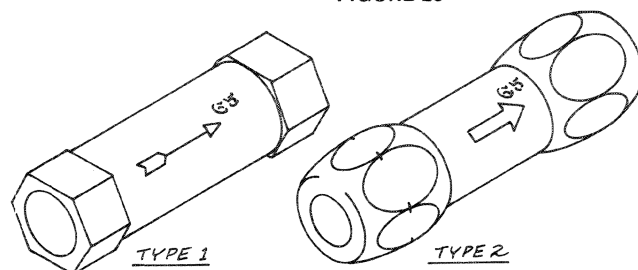

FIGURE 24
- (a) 65 psi check valve: No. 65 on outside of body indicates valve pressure rating. See Figure 24. On Type 1 valves, only the arrow shows direction of free flow. Type 2 check valves have these arrows and notches on the hex flats at the inlet end.
- (b) Model 912's, 1112's and 1114's with Cessna transmissions do not require the 15 psi check valves shown in Figure 24. If Cessna transmissions leak at the pintle shafts on 912's or 1112's, remove the 15 psi valve, Figure 25, and replace it with a  $\frac{3}{4}$ " pipe coupling, Figure 26.